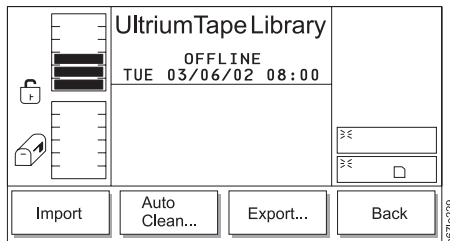

Figure 4-92. I/O Station Submenu
2. Press the button below the **I/O Station** softkey. The I/O Station Submenu displays (see Figure 4-92).
8. To return to the I/O Station Submenu (see Figure 4-92 on page 4-56), press the button below the **OK** softkey. To return to the Main Menu press the button below the **OK** softkey, then press the button below the **Back** softkey until the Main Menu displays.